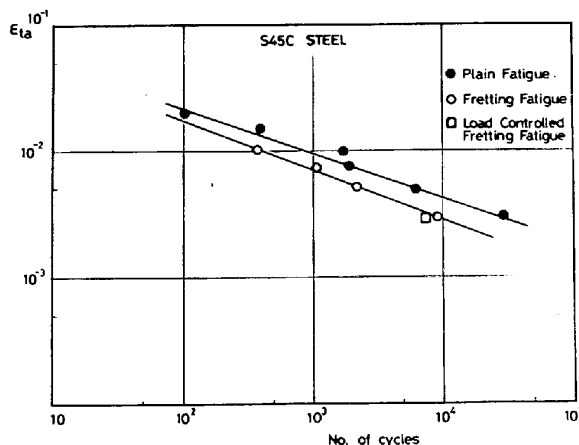
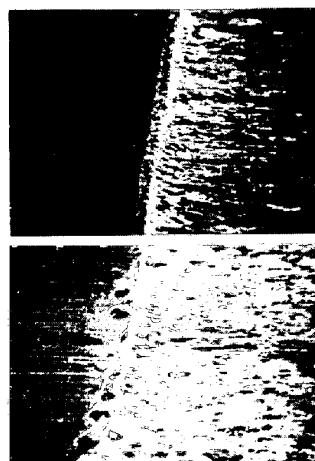

Fig.2. Total strain amplitude (ϵ_{ta}) vs number of cycles to failure.
Fig.3.
3. Initial Results: Initial results in low cycle tests (Fig.2) have shown that fretting causes a reduction in fatigue life similar to that normally found in load controlled tests. For example, at 0.5% total strain amplitude a 65% reduction in fatigue life was found. Fig.3 shows micrographs of the edges of two fretting scars produced in strain controlled and load controlled tests respectively. It can be seen that the strain controlled test produced a definite fretting scar boundary whereas the load controlled scar is more diffuse.